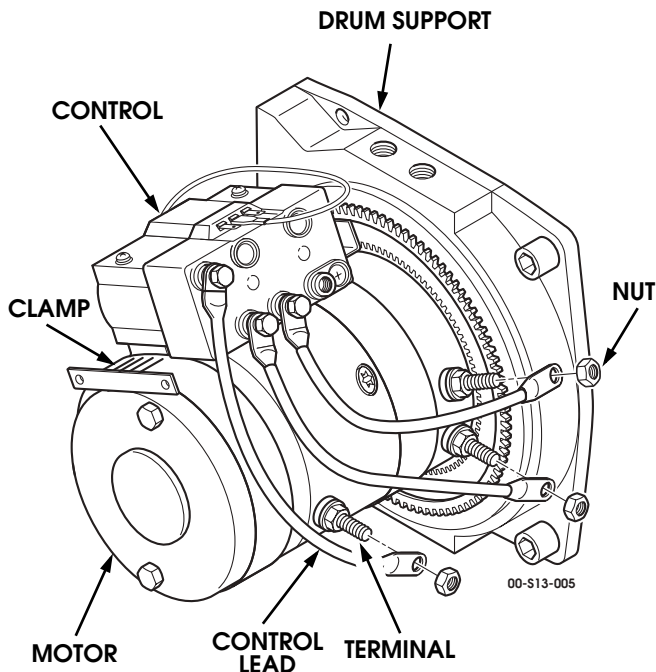

Figure 13-21: Control Leads
25. Connect three control leads to terminals and secure with nuts (Figure 13-21).
2. Remove three nuts and control leads from motor (Figure 13-21).
- Connect three control leads to terminals and secure with nuts (Figure 13-21).